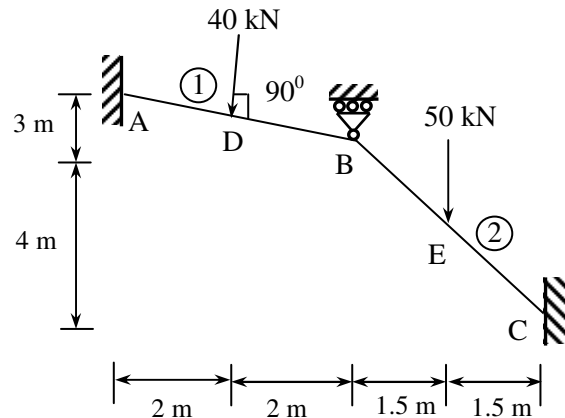

Figure 4
- Q.3** (a) Construct the rearranged joint stiffness matrix for the plane frame shown in Figure 4. **06**
- (b) Determine free joint displacements, support reactions and member end-actions for the plane frame shown in Figure 4 using stiffness member approach. Also draw free body diagrams. **06**